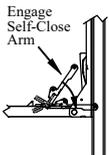

Figure 10: Step 12.
Step 12. To close the platform, stand to the passenger's side of the platform, not under, behind or on the platform. With the platform lowered, close and lock the platform cart stops, if so equipped, then lift the handle of the self-close arm with your hand to engage the self-close arm (Figure 10).